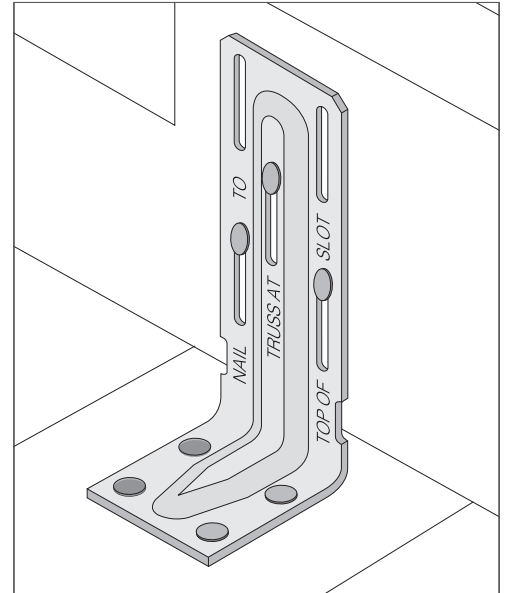

FIG. 1
1. Fix bracket to top plate with 4 / 30mm x 3.15 dia. Product Nails. See Figure 1.